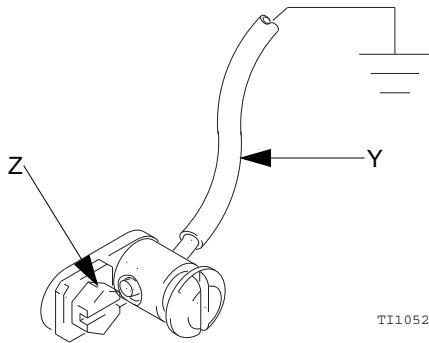

FIG. 1
- Pump: Use a ground wire and clamp as shown in FIG. 1.
To ground the pump, remove the ground screw (Z) and insert through the eye of the ring terminal at end of the ground wire (Y). Fasten the ground screw back onto the pump and tighten securely. Connect the other end of the ground wire to a true earth ground. See FIG. 1. To order a ground wire and clamp, order Part No. 222011.